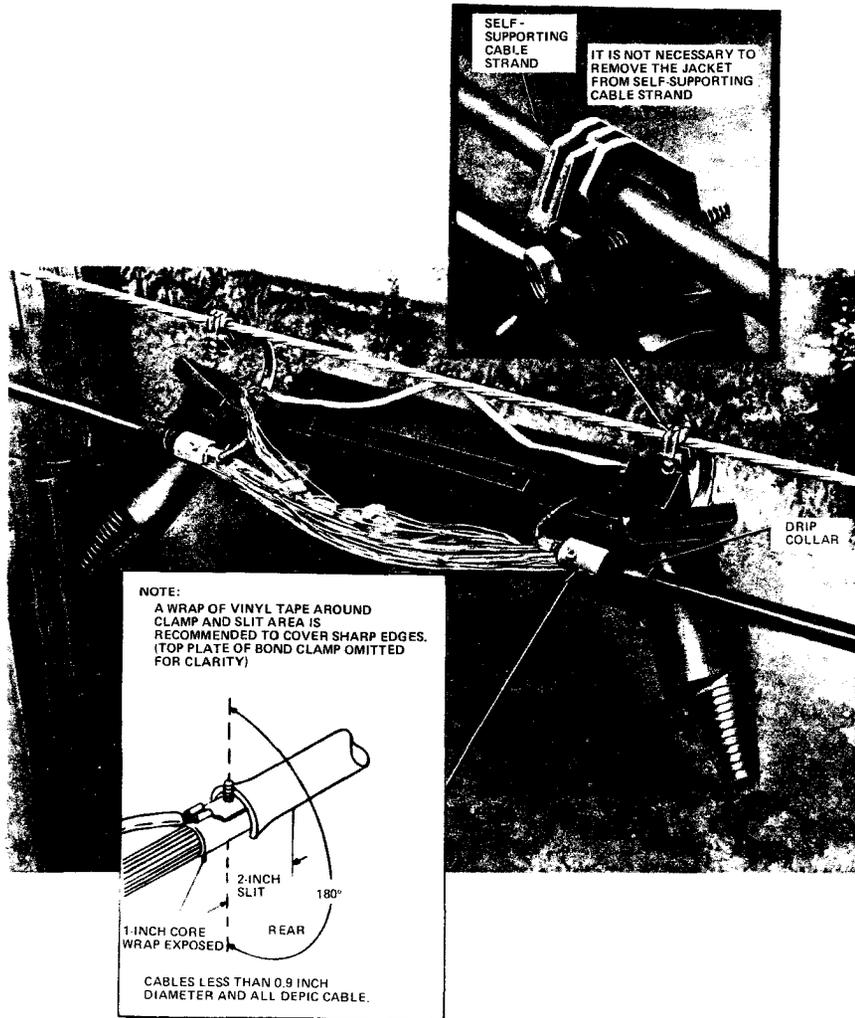

Fig. 17—Installing Terminal Panel Assembly (105A-Type Cable Terminal With Soft Boots)
4.05 Place drip collars just outside the bond clamps (Fig. 17) as follows:
4.03 Center the terminal panel assembly over the sheath opening and hang the strand adapters on the strand with the bolts only finger tight (Fig. 17). If desired, the cable may be placed in front of the terminal panel assembly to provide additional working space.
(1) Use a carding brush to circumferentially scuff the sheath in the areas where the drip collars are to be formed.
(2) Wrap two layers of sealing tape over the scuffed surface next to the bond clamps.
(3) Wrap two layers of vinyl tape over the sealing tape to cover its tacky surface.
4.04 Install the bond clamps by sliding the inner shoe of the bond clamp between the core wrap and the metal shield until the threaded stud hits the end of the sheath (Fig. 17). Tighten the clamp using a 216-type tool only. If a 105-E series is being installed, bond the cable using a bond clamp in accordance with local procedures.
4.06 Dress the stub cable leads to the left end of the terminal and splice the stub cable to the assigned cable pairs using an approved connector (Fig. 17).